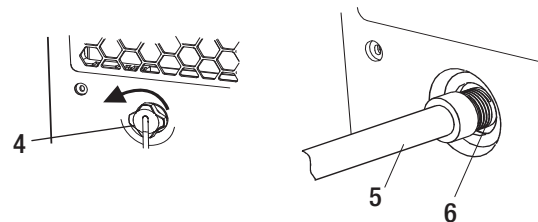

Figure 3
- Uncover the connector cover on the back of the unit (4).
- Attach a garden hose (5) to the drain hose connector (6) on the back of the dehumidifier. Securely attach the hose to be sure there is no water leak. (Figure 3)